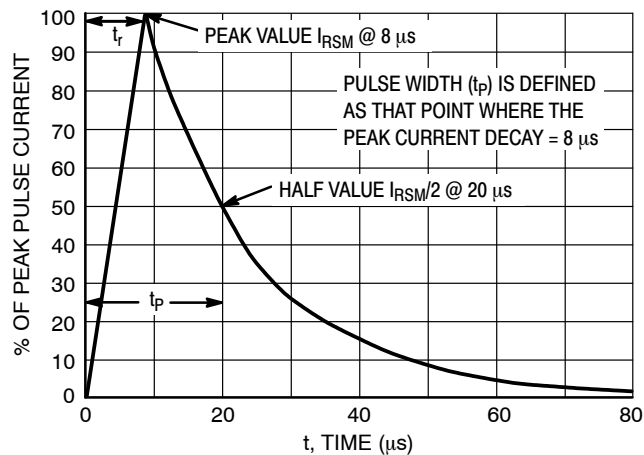

Figure 5. 8 x 20  $\mu$ s Pulse Waveform
- Surge current waveforms per Figure 5.